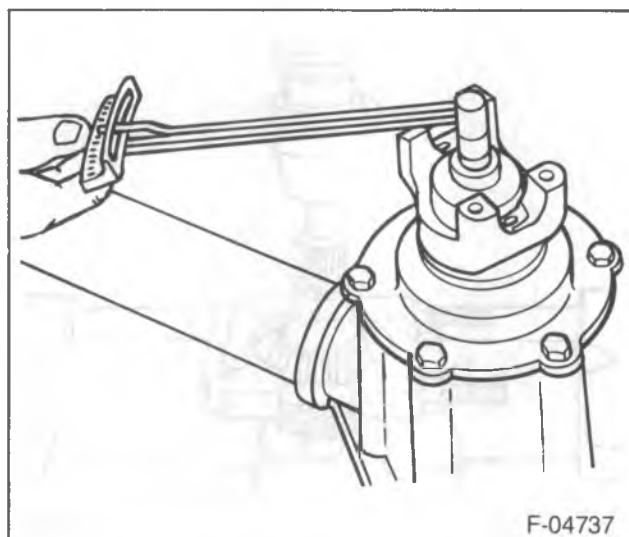

Figure 12—Checking Pinion Preload
- Remove J 8614-01. Using an inch-pound torque wrench, check the pinion preload by rotating the pinion with the wrench. Preload should be at or below 2.8 to 4.0 N·m (25 to 35 in. lbs.) for new bearings, or 0.56 to 1.7 N·m (5-15 in. lbs.) for used bearings (figure 12).
- Pinion cage (10) to the axle housing. Refer to "Pinion Installation" in this section.